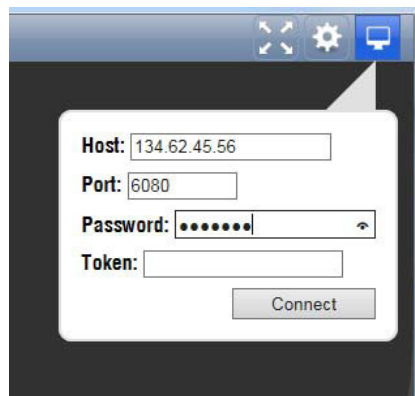

Figure 10: noVNC Connect menu
5. In the Control bar, click the **Connect** icon () to open the Connect menu. (See Figure 10.)